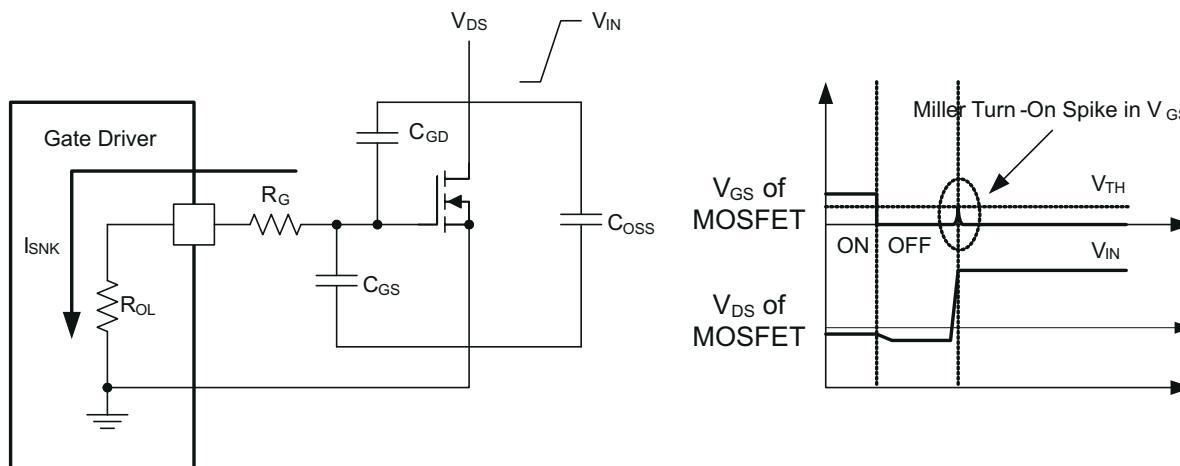

图 6-3. Low Pull-Down Impedance in UCC27532 (output stage mitigates Miller turn-on effect)
An example of a situation where Miller turn on is a concern is synchronous rectification (SR). In SR application, the dV/dt occurs on MOSFET drain when the MOSFET is already held in Off state by the gate driver. The current charging the C_{GD} Miller capacitance during this high dV/dt is shunted by the pull-down stage of the driver. If the pull-down impedance is not low enough then a voltage spike can result in the V_{GS} of the MOSFET, which can result in spurious turn on. This phenomenon is illustrated in 图 6-3.